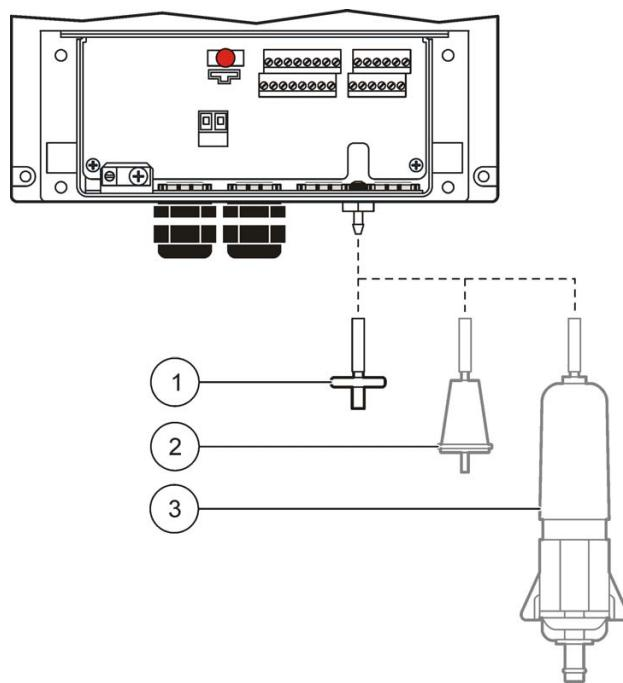

Figure 10 Desiccant cartridges
1. Remove the hydrophobic filter and attach the desiccant cartridge to the APR port (Figure 10).